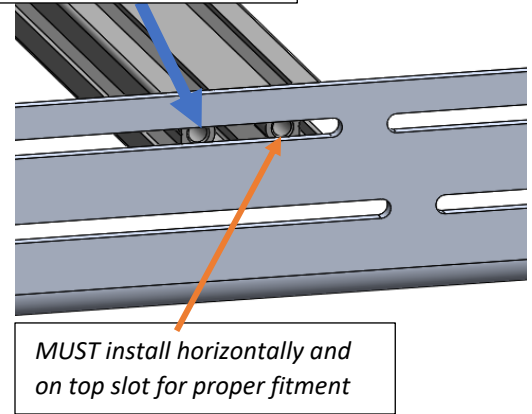

Figure 7: Crossbar Fastening to Side Rail Subassemblies
4. Install at crossbars to connect the driver and passenger side rail subassemblies together. Use measurements of vents or flooring panels to correctly space crossbars. Crossbars can be **only** be installed **horizontally**, on the **top slots** of the side rails. Reference Figure 5 - Figure 7.